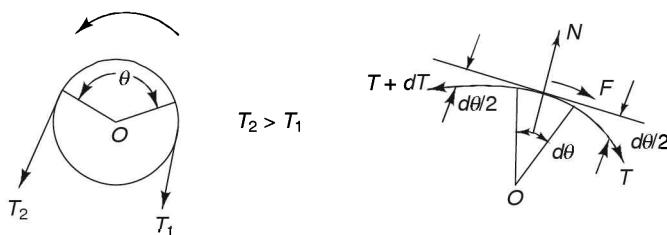

FIGURE 9.8 Relation between tight side and slack side.
Let us develop a relation between tight side (T_2) and slack side (T_1) with the angle of contact (θ). Refer to Figure 9.8. Take a small length of the belt with contact $d\theta$ and tension at tight side ($T + \Delta T$) and slack side tension T . The force of friction (F) acts towards the slack side and the normal reaction N acts radially upwards. All forces are in equilibrium.